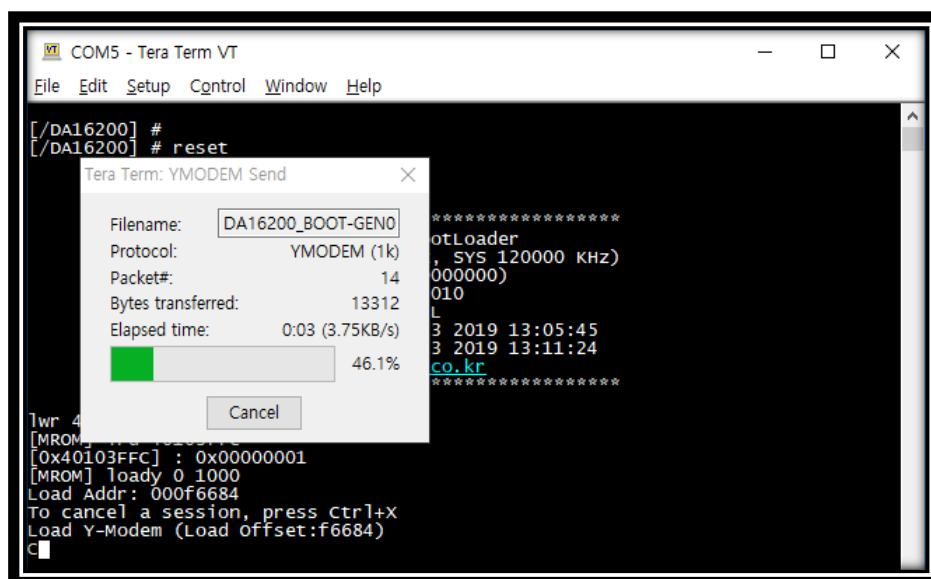

Figure 5. Download Bootloader
2. After opening the macro file, the DA16200/600 will reset, and the BOOT firmware image is downloaded (see Figure 5).